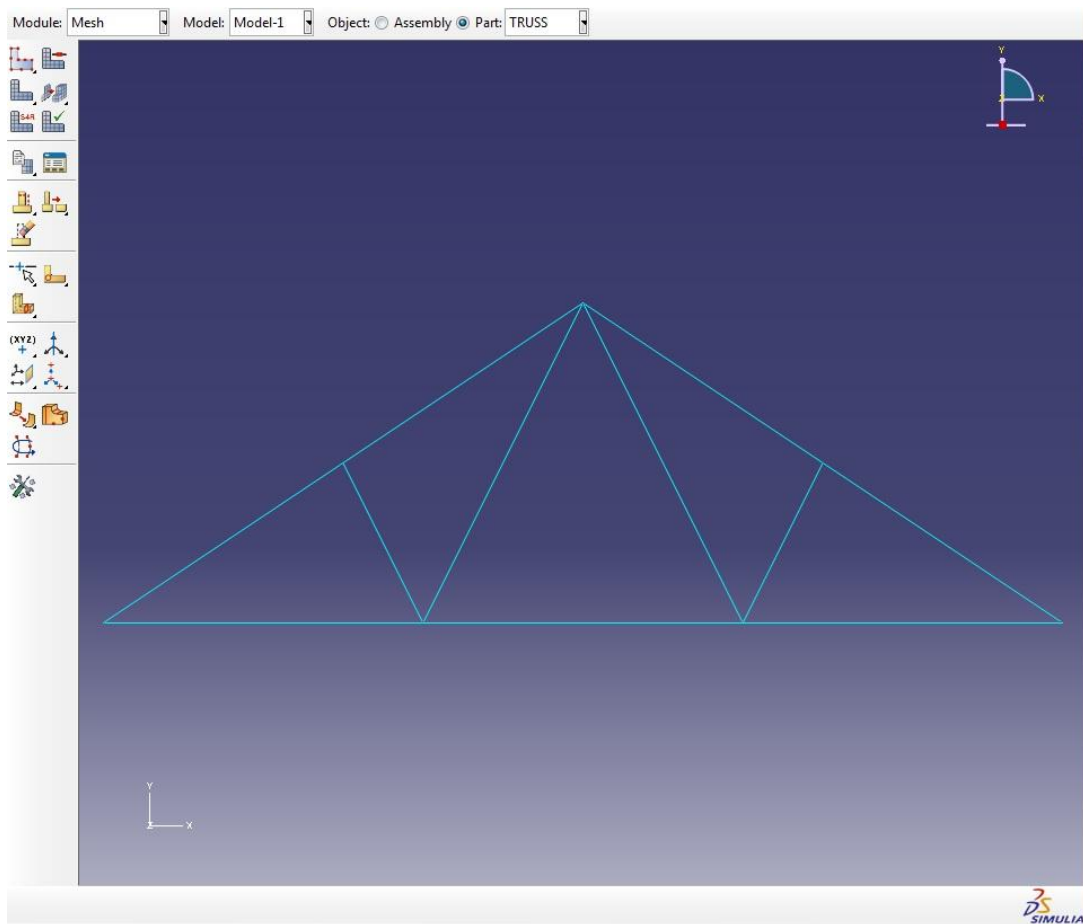

Figure 16. Meshed Geometry
- If this procedure was done correctly, the geometry will turn blue (Figure 16).